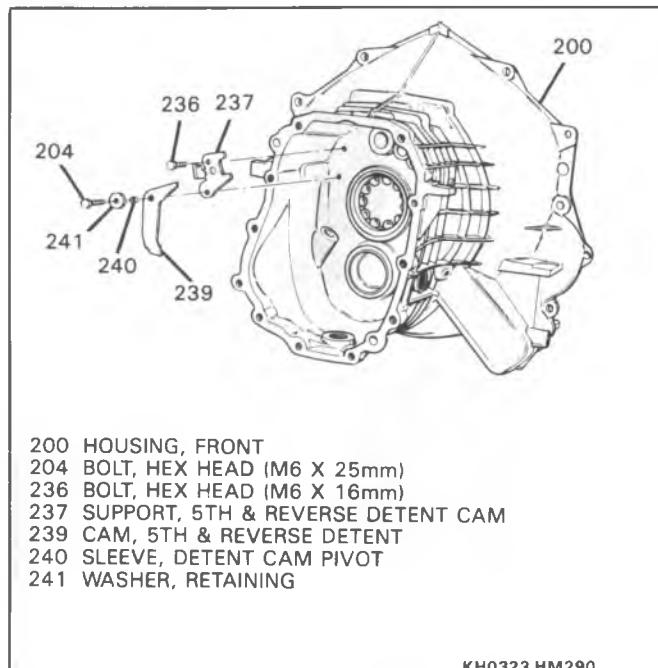
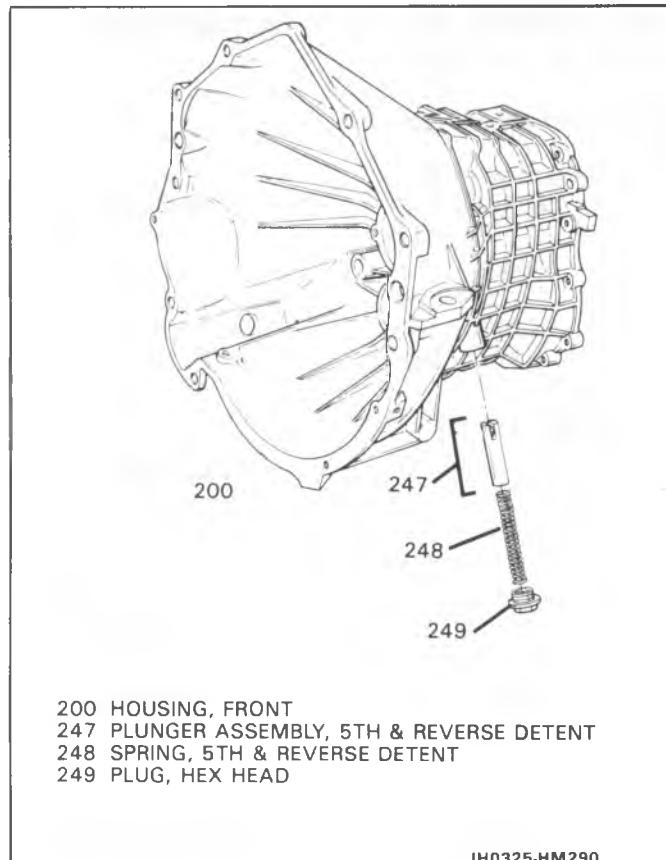
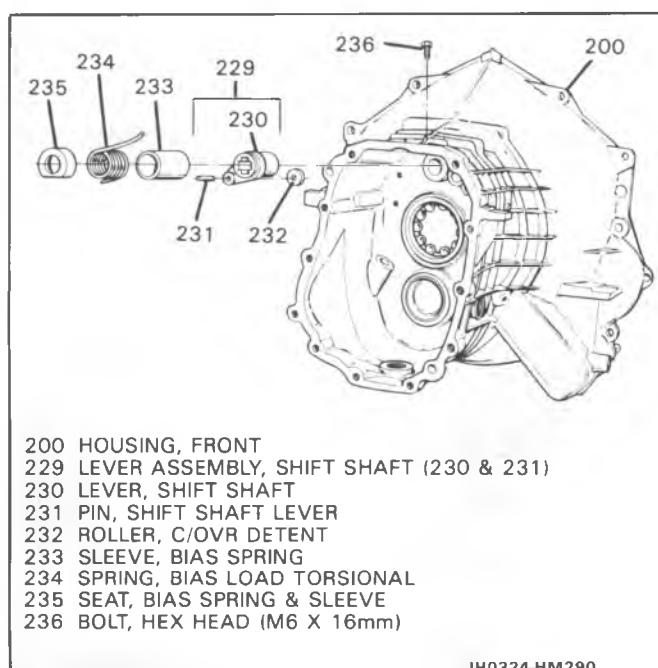

Figure 52 Detent Components Install
Figure 54 5th-Reverse Plunger Install
Figure 53 Bias Spring Components Install
8. Detent cam support (237) and bolt (236) (Figure 52).
- Bolt (236) to 8.5 N·m (7 Lb. Ft.).
- 9. 5th-reverse cam (239), bushing (240), washer (241) and bolt (204).
- Bolt (204) to 8.5 N·m (7 Lb. Ft.).
- 10. Detent roller (232) on shift shaft lever assembly (229) and install into housing (Figure 53).
- 11. Bias spring sleeve (233), bias load torsional spring (234), bias spring and sleeve seat (235) and bolt (236).
- 12. Bias load torsional spring (235) end back onto the shift shaft lever pin (231).
- 13. 5th-reverse plunger assembly (247), 5th-reverse detent spring (248), hex head plug (249) (Figure 54).